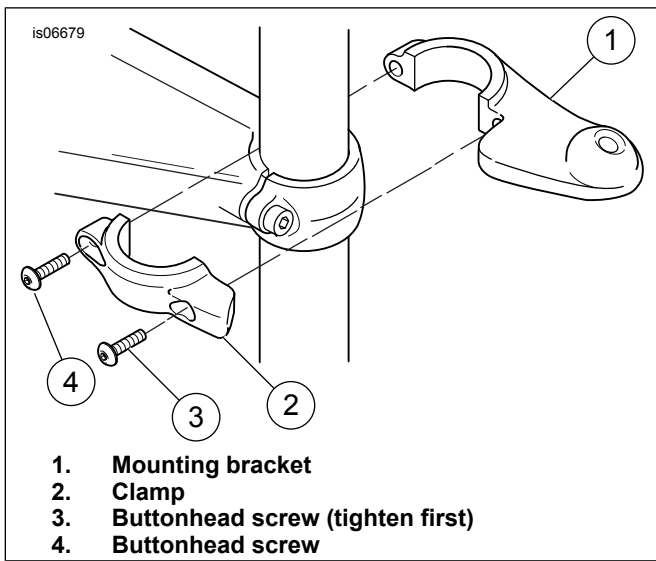
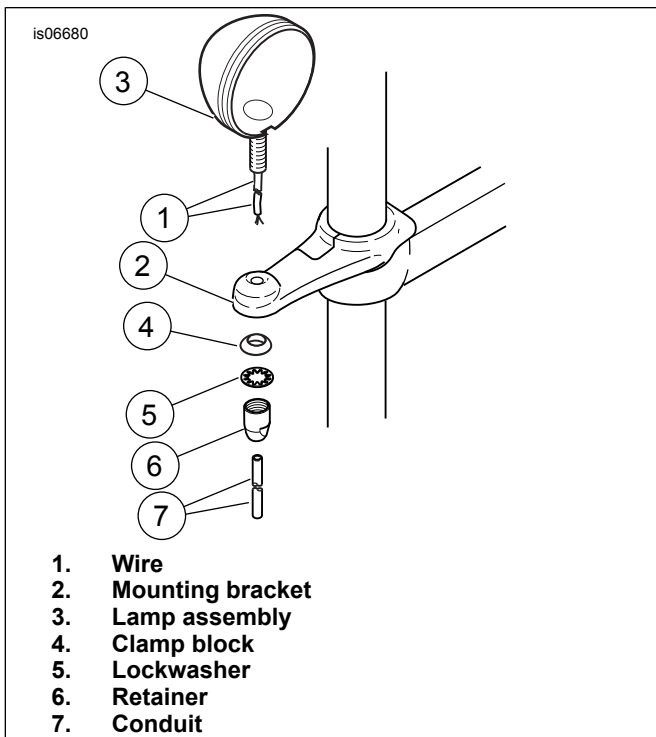

Figure 1. Install Mounting Bracket on Fork Tube (Right Side Shown)
Figure 2. Install Lamps (Right Side Shown)
3. See Figure 1. The mounting brackets (1) and clamps (2) are side-specific. Select the right-hand or left-hand bracket and clamp, and install on the fork tube with two button-head screws (3 and 4) from the kit.
4. Starting with the outer screw first (3), tighten to 8–9 N·m (70–80 in-lbs). Repeat for screw (4).
5. See Figure 2. Route the lamp wire (1) through the hole in the mounting bracket (2), and secure the lamp (3) to the bracket using a clamp block (4), lockwasher (5) and retainer (6) from the kit. Tighten the retainer to 16-18 ft-lbs (22-24 Nm).
9. See Figure 2. Slide the conduit (7) from the kit over the lamp wire.